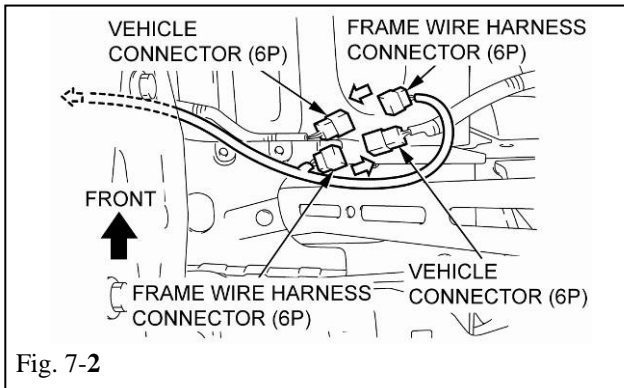

Fig. 7-2
- (b) Connect the frame wire harness connector (6P) to the vehicle connector (6P). (Fig. 7-2)